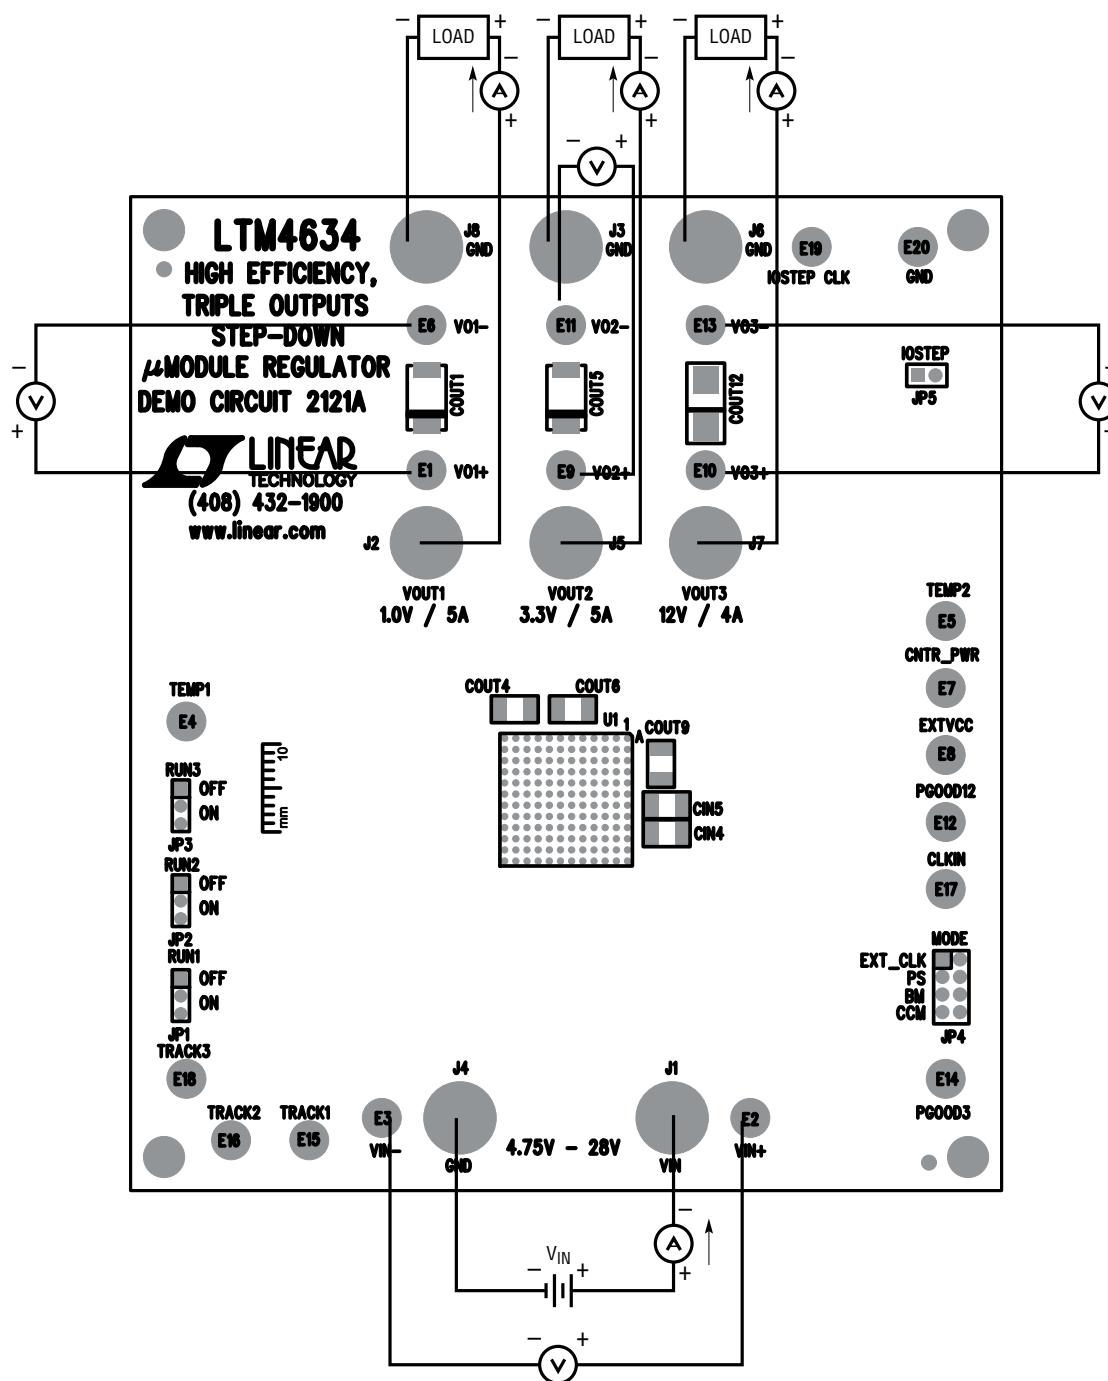

Figure 1. Measurement Setup of DC2121A
Demonstration circuit DC2121A is an easy way to evaluate the performance of the LTM4634. Please refer to Figure 1 for proper measurement equipment setup and follow the procedure below.
2. With power off, connect the input power supply, loads and meters as shown in Figure 1. Preset the load to 0A and V_{IN} supply to 24V.